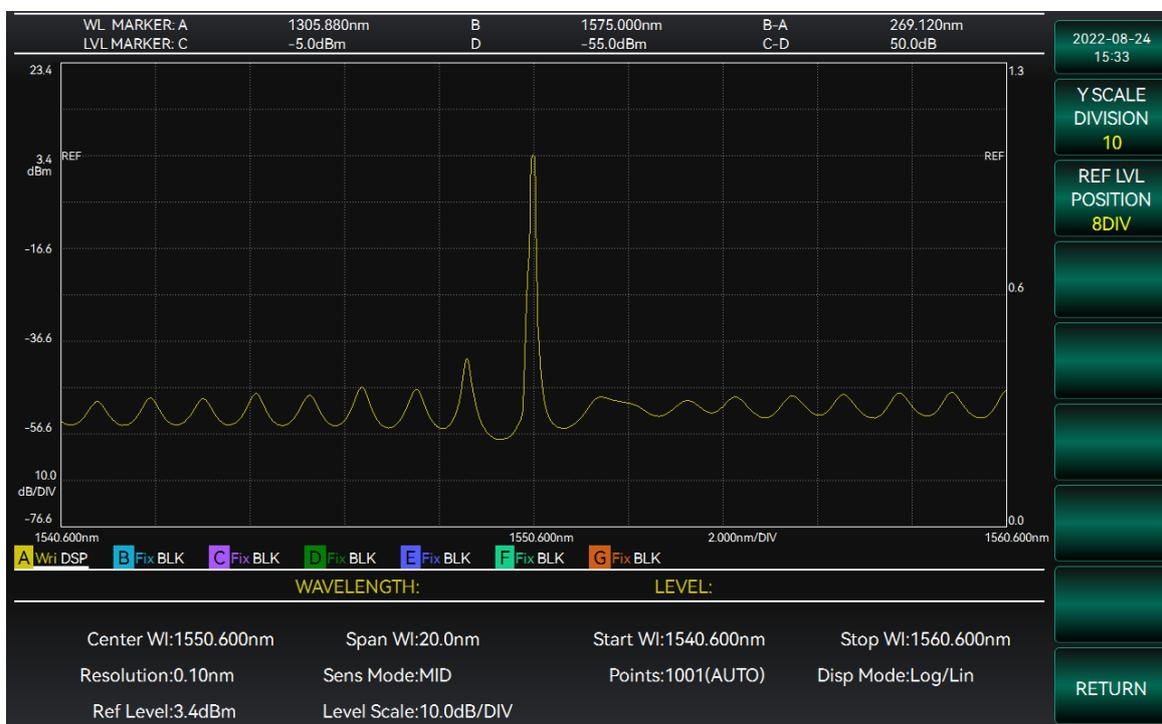

Figure 3-25 Y-axis setting interface
2. Select [Y-axis Grid] or [RefPos] to set the corresponding function respectively. The operation interface is shown in Figure 3-25.